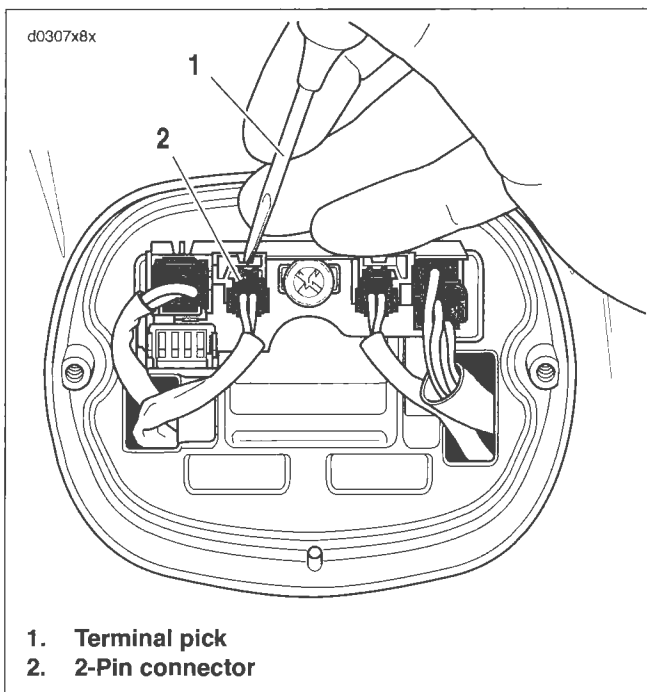

Figure 8-38. Removing 2-Pin Connectors
3. See Figure 8-38. Using a terminal pick, depress locking tabs and remove two 2-Pin turn signal connectors and 6-Pin Power In connector from circuit board.